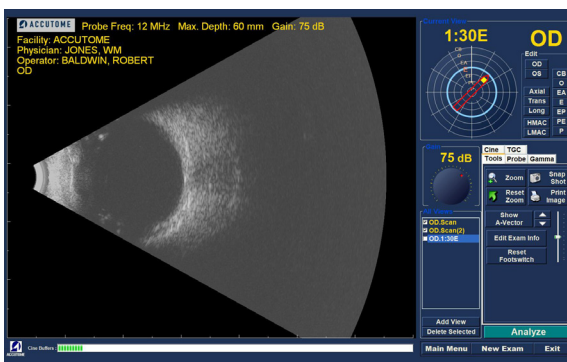

Figure 5.28 - Changing a View - Done
5. The edited current view will appear in the list of "All Views" as shown in Figure 5.28.